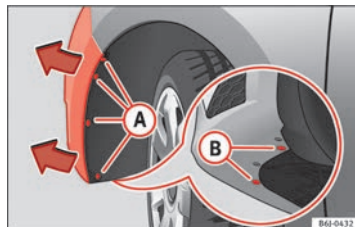

Fig. 173 Fog light: access to the connector and to the light bulb holder.
- Remove the 4 bolts **A** ⇒ Fig. 173 from the inside of the wheel housing and the 2 bottom bolts **B** ⇒ Fig. 173 from the bumper with a screwdriver.